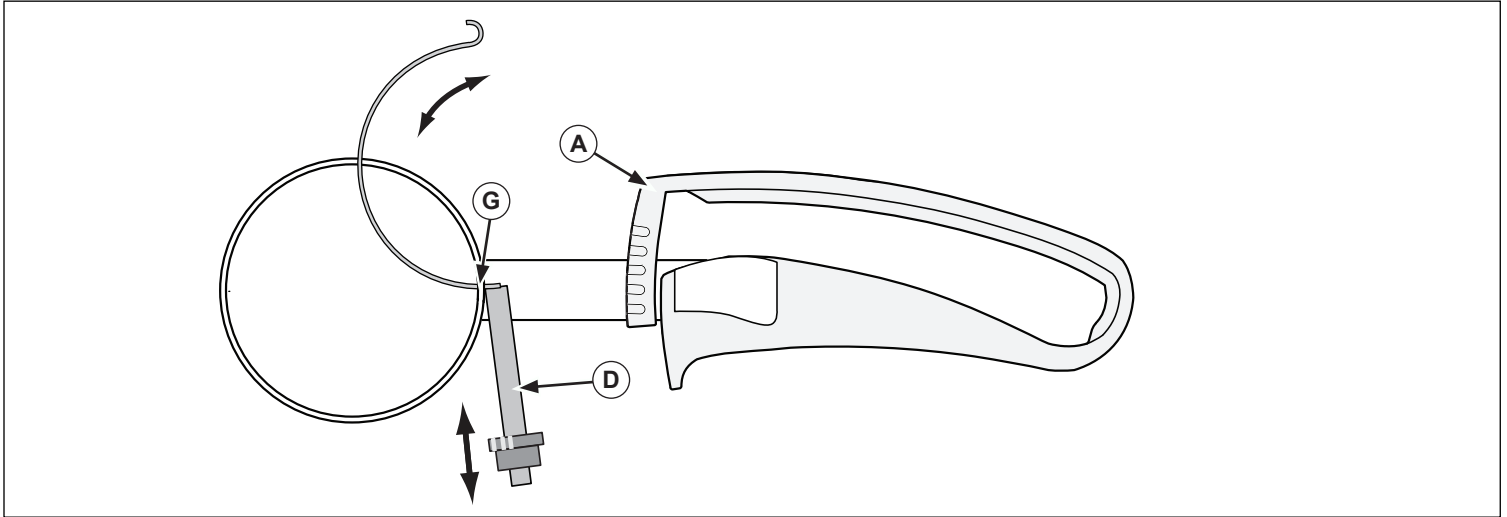

Figure 5. Handle, Sweep Assembly and Inside Bowl Hole.
5. Slowly release the handle (A) allowing it to return to the normal ready position. Gently slide the sweep assembly (D) through hole (G). It may be necessary to turn or maneuver the sweep assembly (D) in order to get it through hole (G). See Figure 5.
8. Slide the sweep assembly (D) through the hole (G). It may be necessary to turn or maneuver the sweep assembly (D) in order to get through hole (G). See Figure 5.